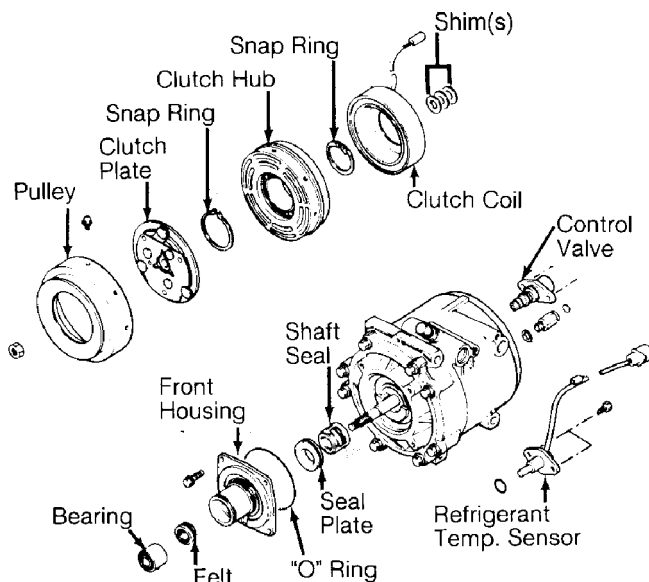

Fig. 17: Exploded View Of Compressor (Sanden FX105V Scroll)
2) Remove clutch plate. See Fig. 17. Remove snap ring with internal snap ring pliers. Remove clutch hub. Remove snap ring and clutch coil.